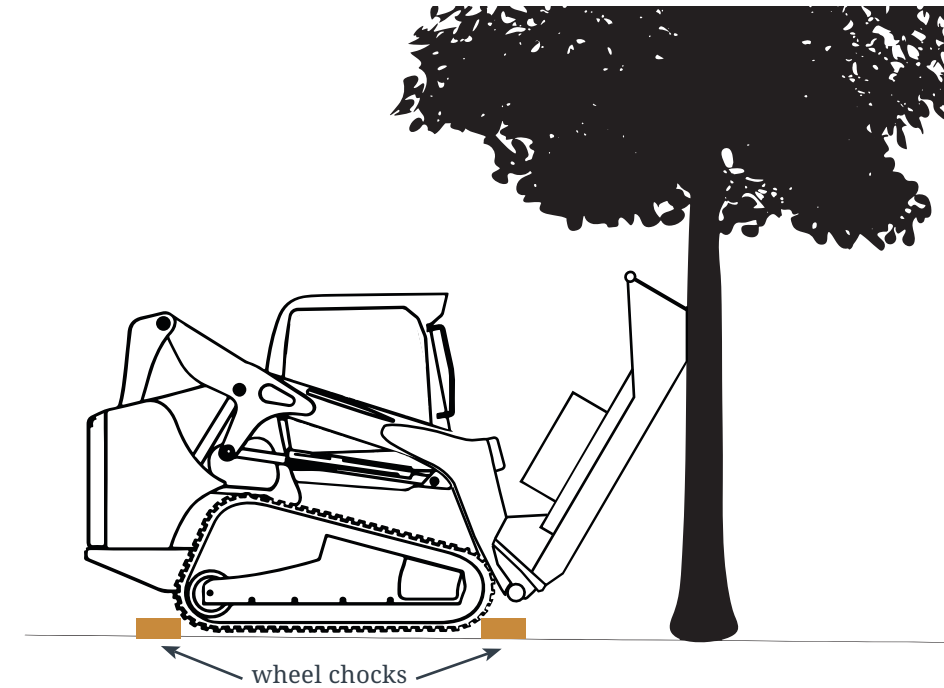

FIGURE 3.4A – BRUSH CUTTER DECK SUPPORTED BY TREE
4. SECURE the front end of the cutter deck with an overhead hoist and chain. If you are performing this procedure in the field, lean the cutter head against a large, stable tree that has a diameter of at least 10 inches (see Figure 3.4a Right).